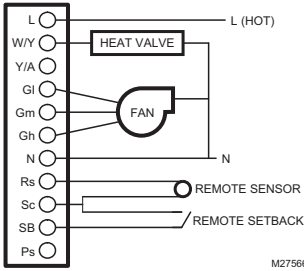

Fig. 7. Two pipes Heat-only wiring diagram (120/240/277 Vac shown).
- TB6575A1000, TB6575B1000 and TB6575C1000 fan coil thermostats, which are 120/240/277 Vac powered. Refer to Fig. 7–Fig. 13, beginning on page 8,